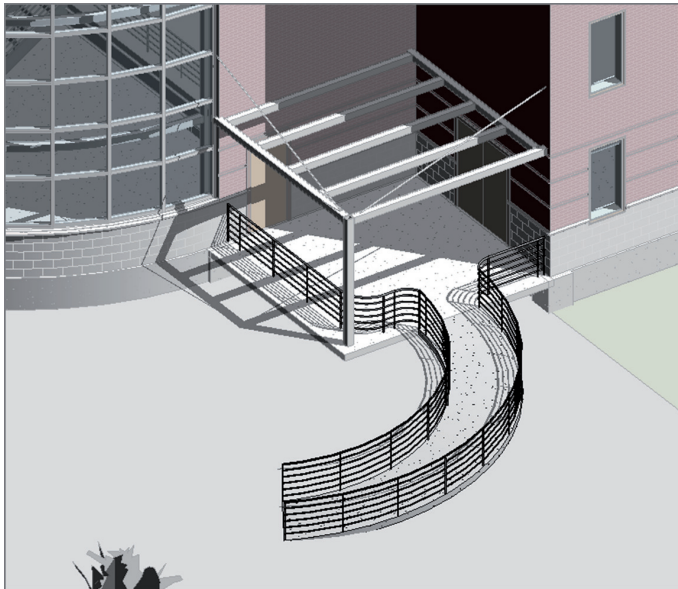

FIGURE BC7.13: The curved option
2. The L-shaped items disappear. Draw a ramp and a railing similar to those shown in Figure BC7.13. Remember, the ramp is from Level 1 to Level 1, with a -2'-6" (-750mm) bottom offset.